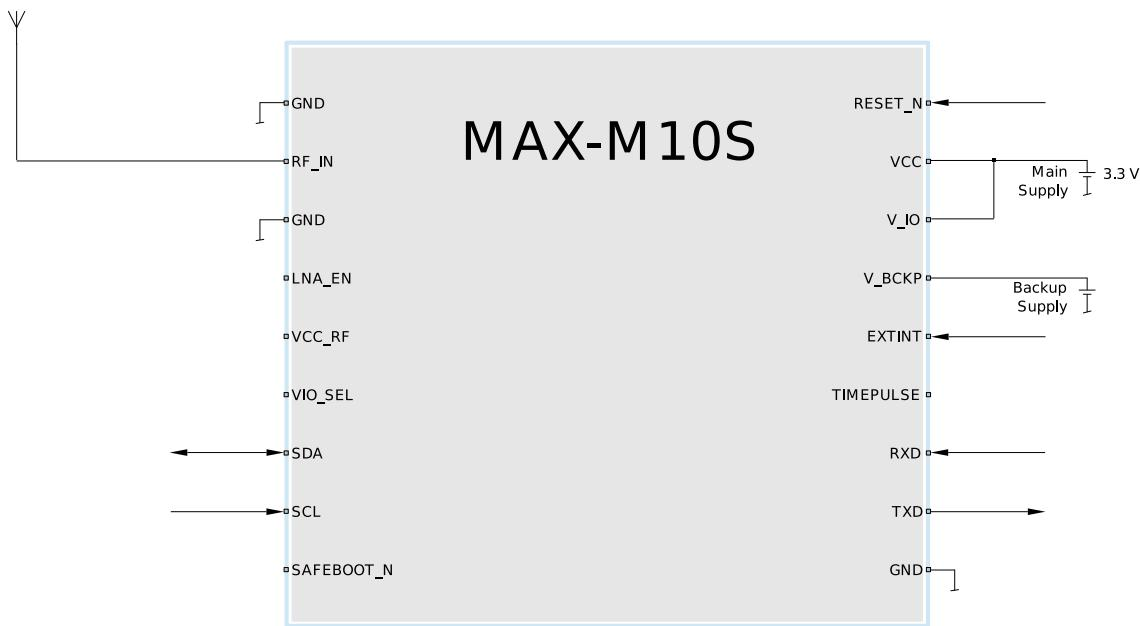

Figure 36: Typical 3.3 V design
- VCC and V\_IO are connected together to a single supply. In designs with 3.3 V supply, the VIO\_SEL pin must be left open, as shown in Figure 36. In designs with 1.8 V supply, the VIO\_SEL pin must be connected to GND, as shown in Figure 37.